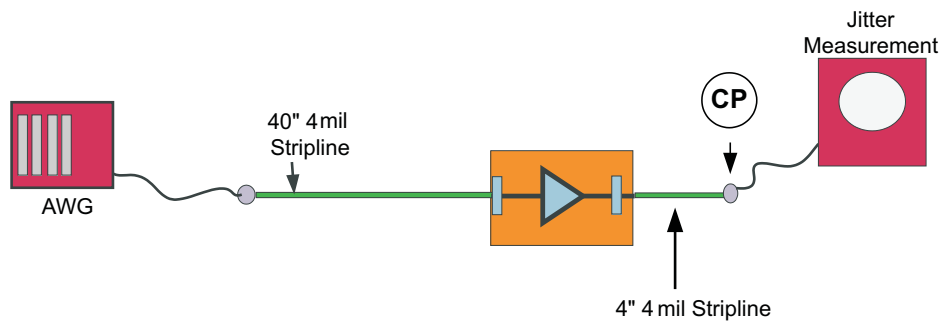

Figure 6. Jitter Measurement Test Condition
- (1) $T_j = (14.1 \times RJ_{SD} + DJ)$ where RJ_{SD} is one standard deviation value of RJ Gaussian distribution. Jitter measurement is at the CP connector and includes jitter generated at the package connection on the printed circuit board, and at the board interconnect as shown in Figure 6.